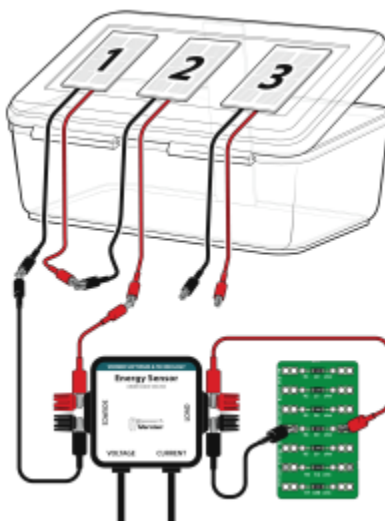

Figure 5
- b. Connect the red clip from Solar Panel 1 to the black clip from Solar Panel 2 (see Figure 5).